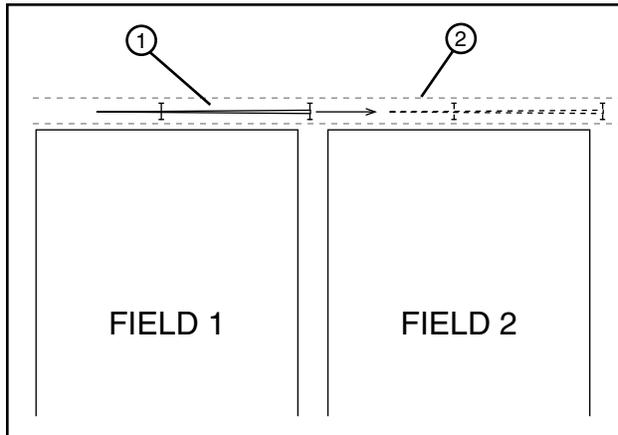

Figure 66-1 1. Machine
1. Position the machine in the tow lane. See Figure 66-1.